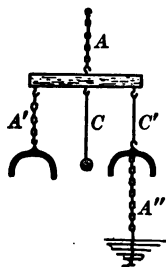

FIG. 394. — Bells.
14. Support the apparatus shown in Fig. 394 and connect it with one of the terminals of a static machine. *C* and *C'* are silk threads; *A*, *A'*, and *A''* are brass chains. Why do the bells ring when the machine is in operation?